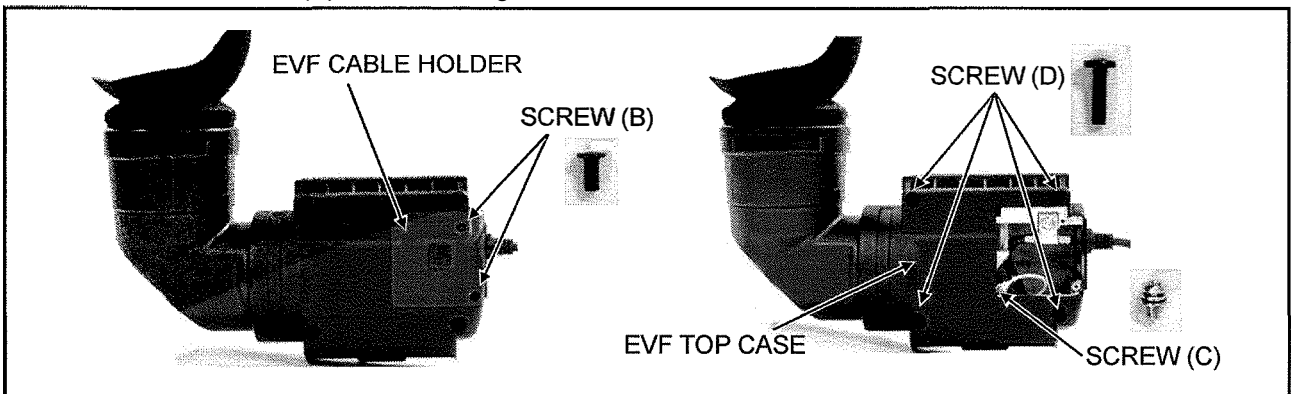

Figure 11-2
3. Unscrew the 2 screws (B) as shown in figure 11-2 and remove the EVF CABLE HOLDER.
4. Unscrew a screw (C) as shown in figure 11-2 and remove the GND cable.
5. Unscrew the 4 screws (D) as shown in figure 11-2 and remove the EVF TOP CASE.
4. Unscrew the 4 screws (D) as shown in figure 11-2 and remove the EVF TOP CASE.